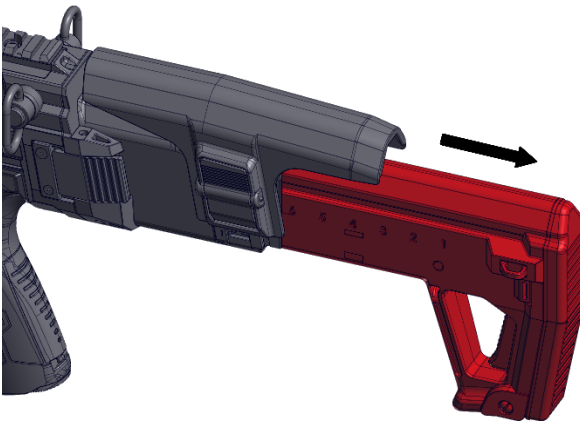

Figure 8-3 - Extended Buttstock
2. Pull the Collapsible Folding Buttstock in and out to one of the desired position then release the button, ensuring it clicks into place. (Figure 8-3).